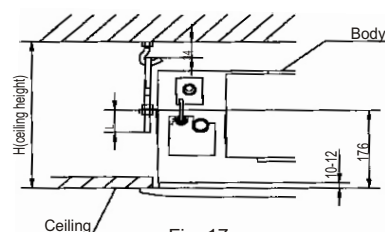

Fig. 17
The length could be calculated from Fig.17:
- The body's lower part should sink into the ceiling for 10~12mm (Refer to Fig.17).